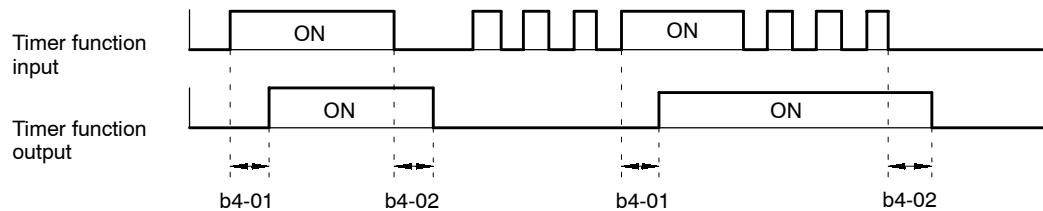

Fig 7.22 Operation Example of Timer Function
- When the timer function input OFF time is longer than the value set for b4-02 (timer function OFF-delay time), the timer function output turns OFF. An operation example of the timer function is shown in *Figure 7.22*.